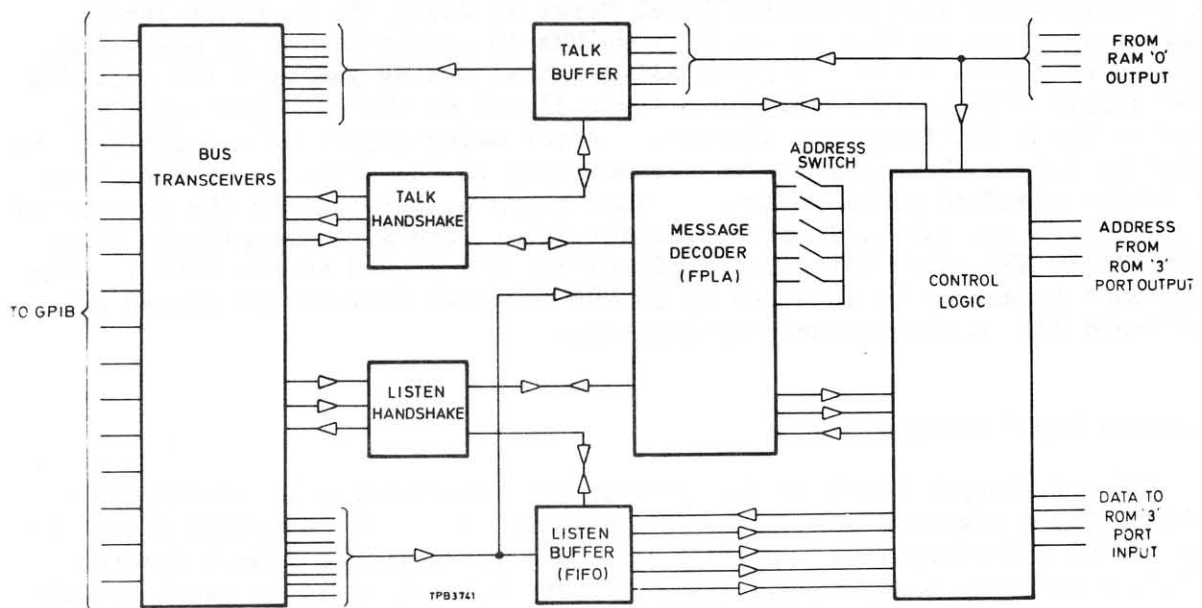

Fig. 8 GPIB interface operation
19. The interface takes care of data transfer between the GPIB and the sender as well as decoding data bus control messages. Block diagram Fig. 8 shows the overall interface operation. Control messages and addresses are passed in by means of the handshake process and since ATN is asserted by the controller with these messages they are decoded by the FPLA (field programmable logic array). Control messages such as, e.g. SPE, SPD used for serial poll, are decoded by the FPLA and the function carried out. The FPLA also performs address recognition. Data on DIO lines 1 to 5 are compared for equivalence with data set on the 5 rear panel address switches. When a possible address is recognized and providing certain other conditions are satisfied, the data on DIO lines 6 and 7 are decoded to determine whether the instrument is being addressed as a talker or a listener. When designated a talker, the interface transfers its status byte by means of a talk handshake to the controller via the talk buffer and transceivers. When designated a listener, instruction